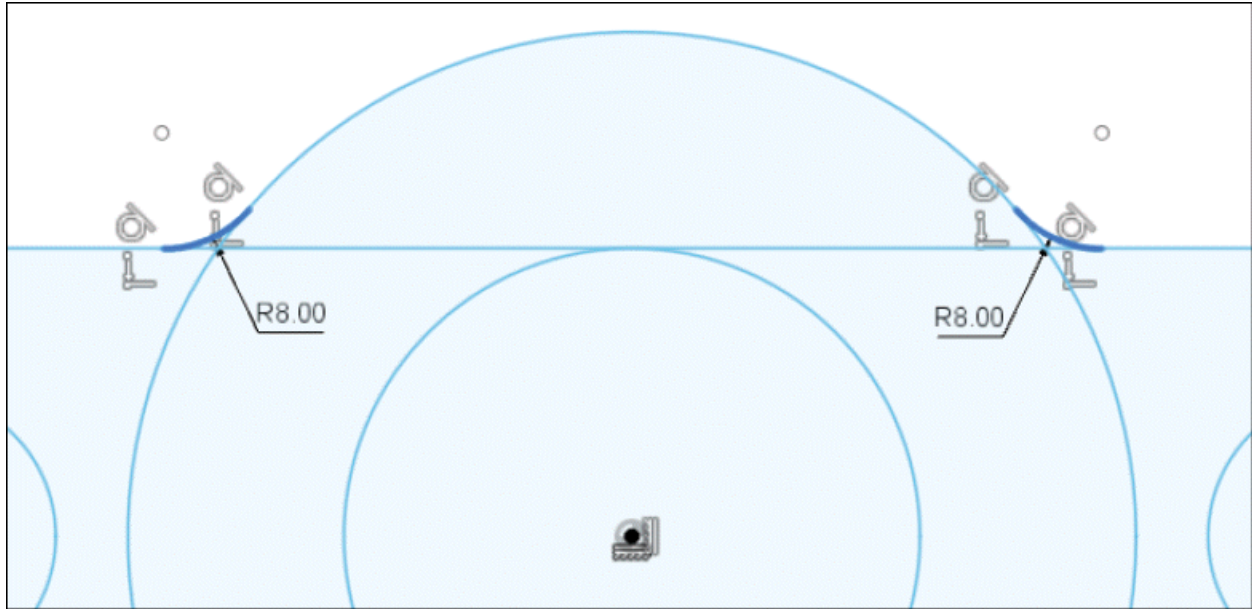

Figure-40. Creating arcs
- Select **3-Point Arc** tool of **Arc** cascading menu and create two arcs of radius **8 mm** each; refer to Figure-40. After creating the arcs, apply **Tangent** constraint to the arcs.